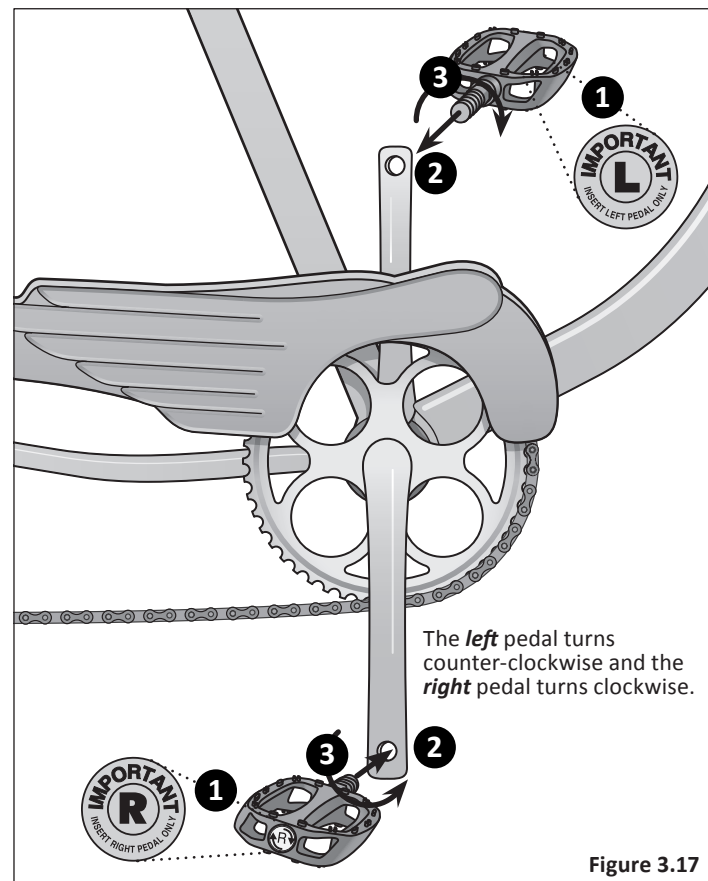

Figure 3.17
- 1 Match the pedal marked R with the right-hand crank arm and match the pedal marked L with the left-hand crank arm. **Figure 3.17**